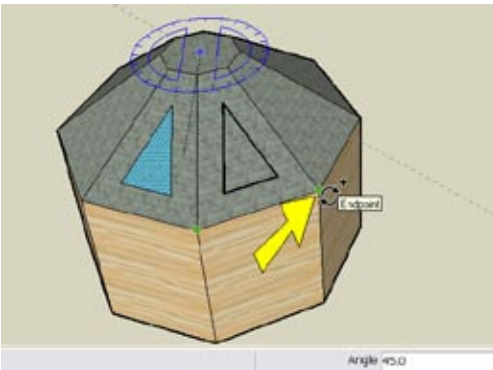

Figure 1-45
7. Click an adjacent octagon corner, and the Angle field informs you that the angle is 45 degrees (Figure 1-45).